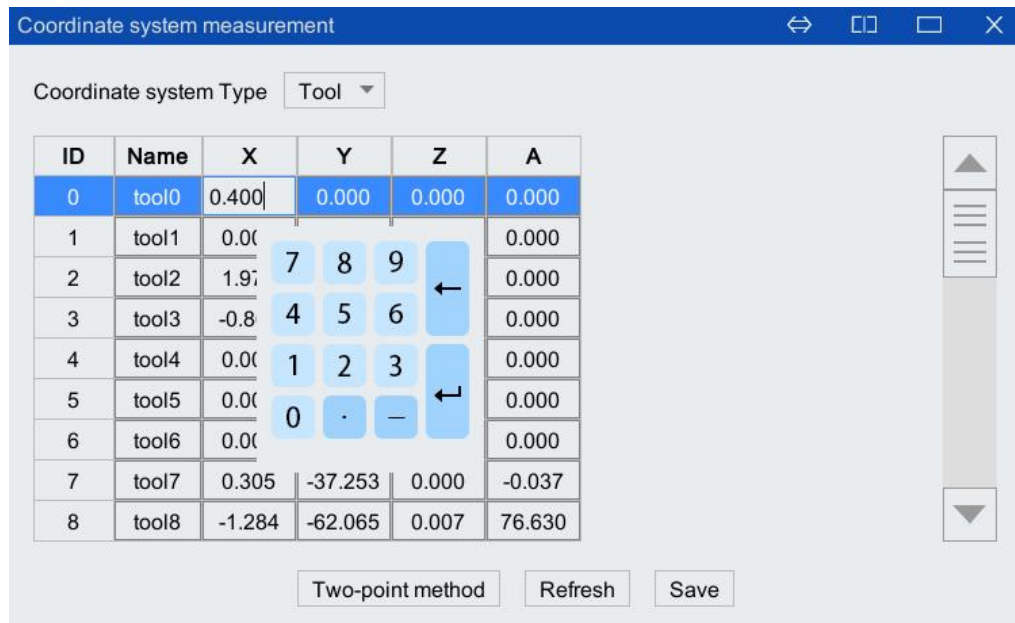

Figure 5-55 Interface of setting workpiece coordinate system by input method
You can set the workpiece coordinate system by inputting, as shown in Figure 5-55. The table shows the position of the origin of the workpiece coordinate system and the posture of the coordinate system.
- Step1. Select "Workpiece Coordinate System" in "Coordinate System Type", as shown in Figure 5-55.